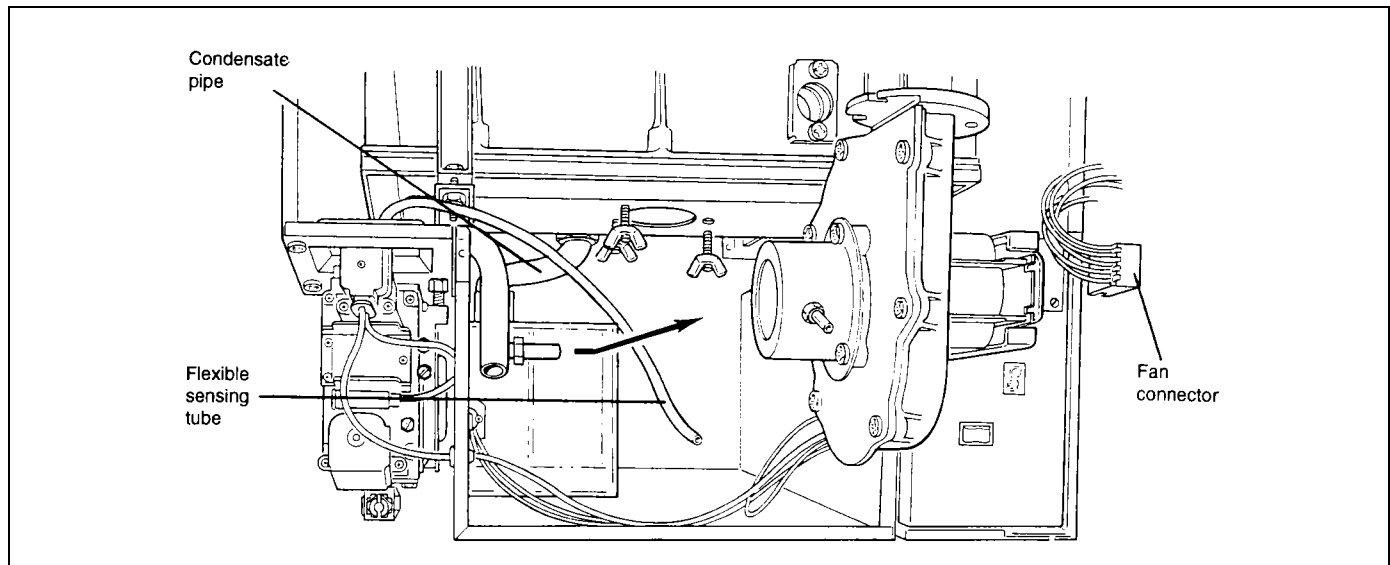

FIG. 16 REMOVING FAN
- 1) Disconnect electrical connection from fan motor. FIG. 16.
- 2) Disconnect flexible sensing tube from the fan inlet housing. FIG. 16.
- 3) Remove fan by slackening two wing screws on left hand side and removing the MS wing screw on the right hand side of the fan. FIG. 16.
- 4) Slide fan to the right then forward and remove from boiler. FIG. 16.
- 5) Disconnect flexible condensate pipe from the rear of the combustion chamber/sump casting. FIG. 16.
- c) Disconnect flexible condensate pipe from the rear of the combustion chamber/sump casting. FIG. 16.